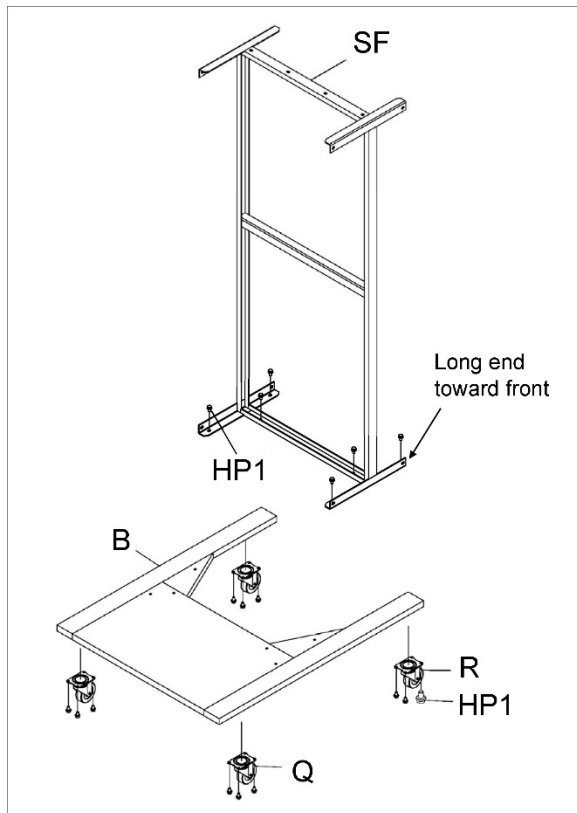

Figure 4
1. Install fixed casters (Q, Figure 4) and swivel casters (R) to threaded holes in base (B), with hex flange bolts (HP1). Note that fixed casters are mounted below platform side of base, as shown.
2. Attach support frame (SF) to base (B) with hex flange bolts (HP1). Make sure support frame is oriented properly – the long end of lower brace will face toward front, or drum side.